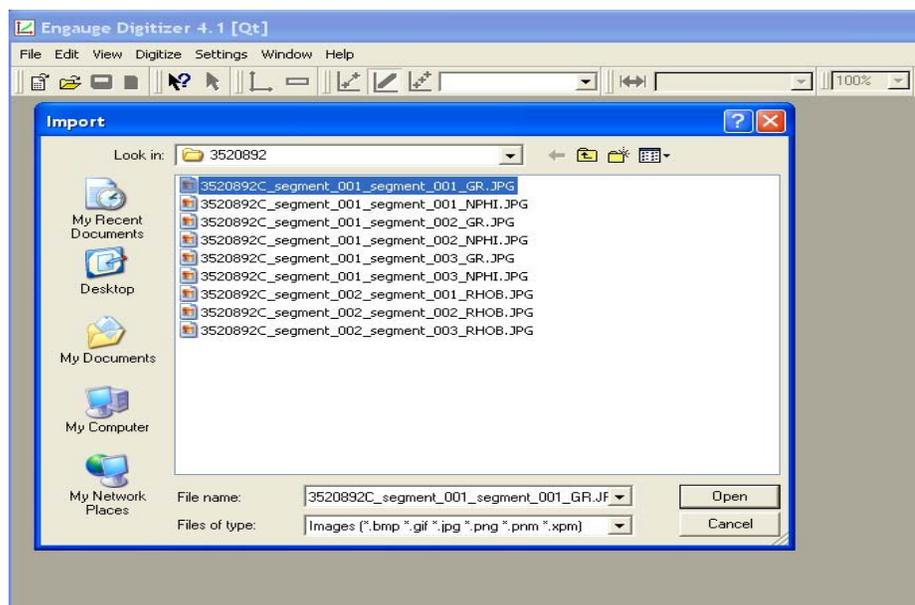

Figure 2, Find your file (ex:3520892C_segment_001_segment_001_GR.jpg) and click on Open button. The file will be imported.
b. Find your file, and Click on Open button.(Figure 2)